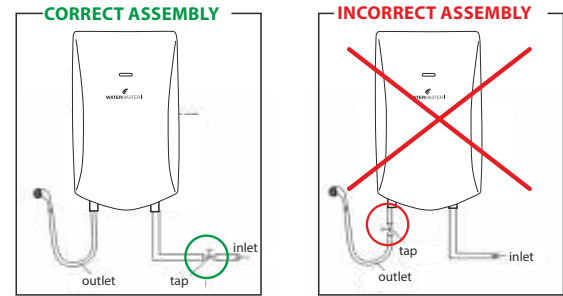

Fig. 14
4. A tap cutting off cold water supply shall be installed upstream its inlet to water heater. It is prohibited to install the cut-off tap at hot water outlet from water heater (Fig.14).